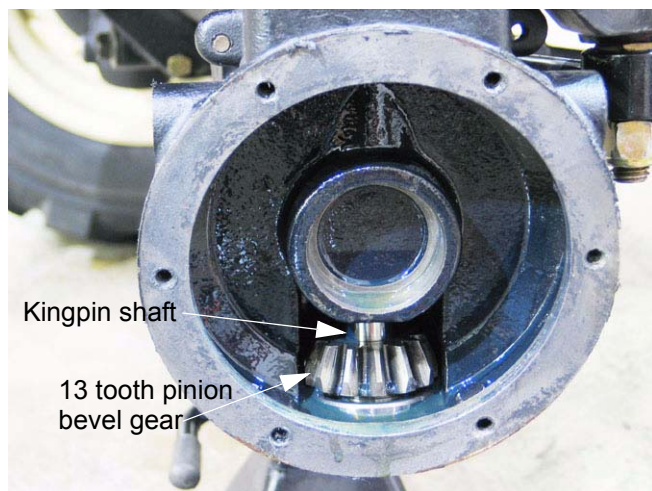

Figure 6.3
- 6.3. From this point, the contents of the drop axle housing are visible. See Figure 6.3.